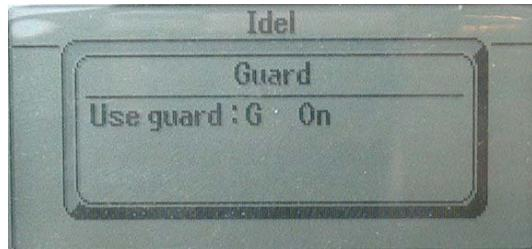

Fig .15. Guard display
- Select *Guard* and press *Enter*. Fig. 15.